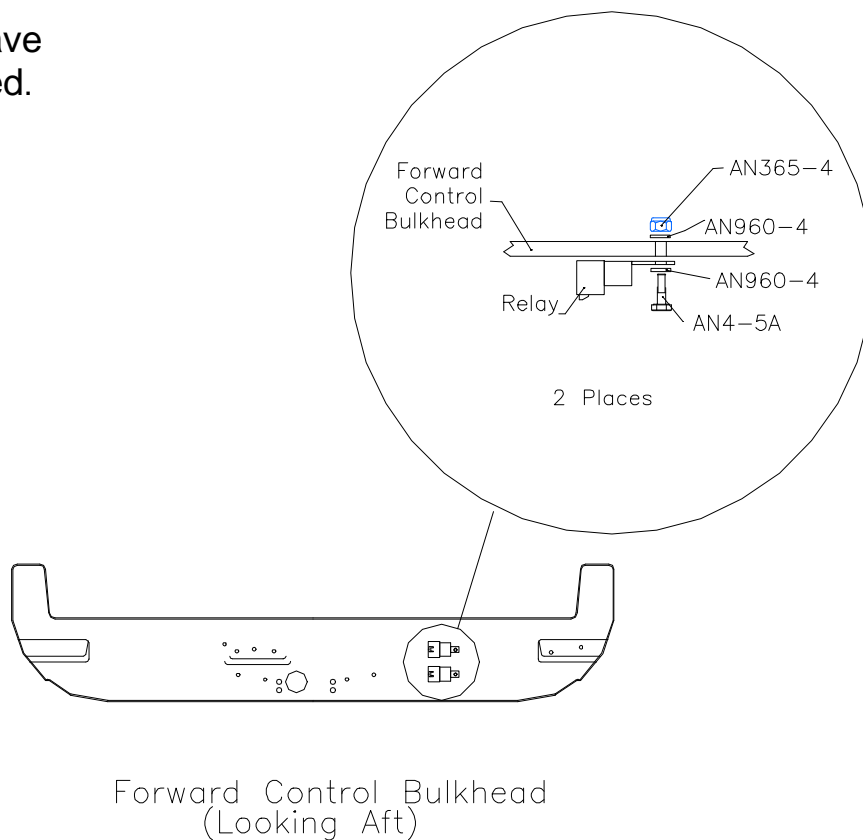

Figure 1
- 10.7** On the forward control bulkhead (the bulkhead aft of the control sticks) locate the drill jig onto the heads of the bolts. Mark the location for drilling the relay mounting holes. The drill jig has 6 holes drill the 2 holes closest to the heads of the locating bolts. Reference Figure 1 for this procedure.
- 10.8** Drill two 1/4" holes for mounting of the trim switch relays. Reference figure 1.
- 10.9** Install the relays on the forward side of bulkhead as shown in figure 1. If the aircraft has recognition lights installed these relays are installed using the existing pulselight power supply mounting bolts in the locations shown in figure 1.